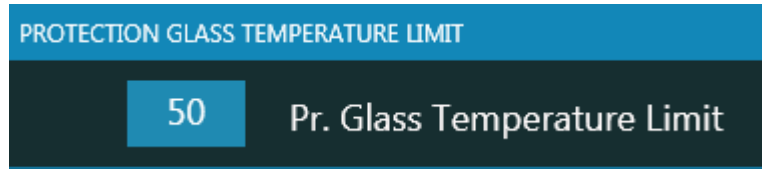

Figure 42
- **PROTECTION GLASS TEMPERATURE LIMIT:** In this area the operator may be set to temperature limit for protection glass as shown **Figure 42**. If the actual temperature reached to set value the axes movement, the laser beam and gas will be stopped by system automatically to protect the cutting head.